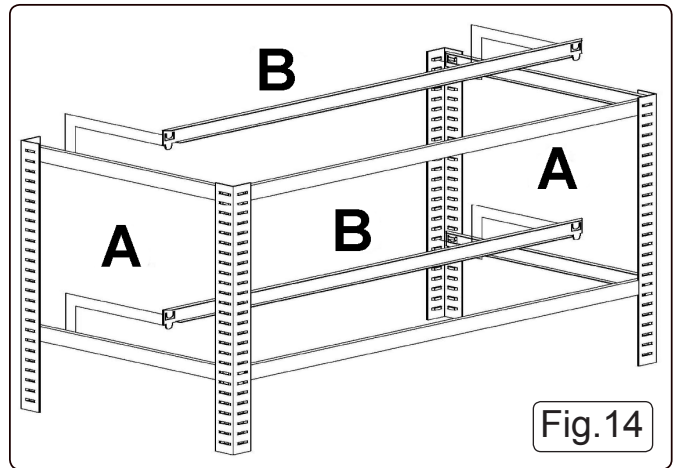

Fig.14
**4.12 See Fig.14.** Join the two end frames together using the four remaining long step beams as shown below. Ensure that each step beam is facing upwards. Tap the beams at either end, close to each angle post to ensure that the tabs are seated at the bottom of the slots.